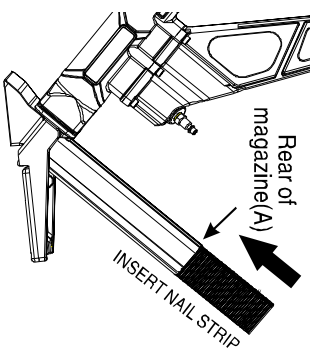
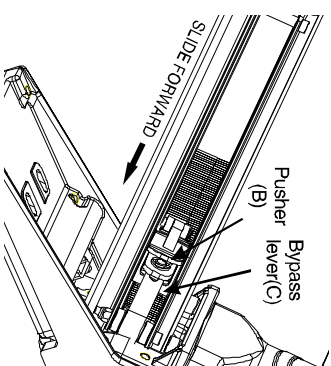

Figure 1
Figure 2
2. Insert strip of fasteners from the rear of magazine(A). Be sure the fasteners are pointed downward.(See figure 1 & figure 2)